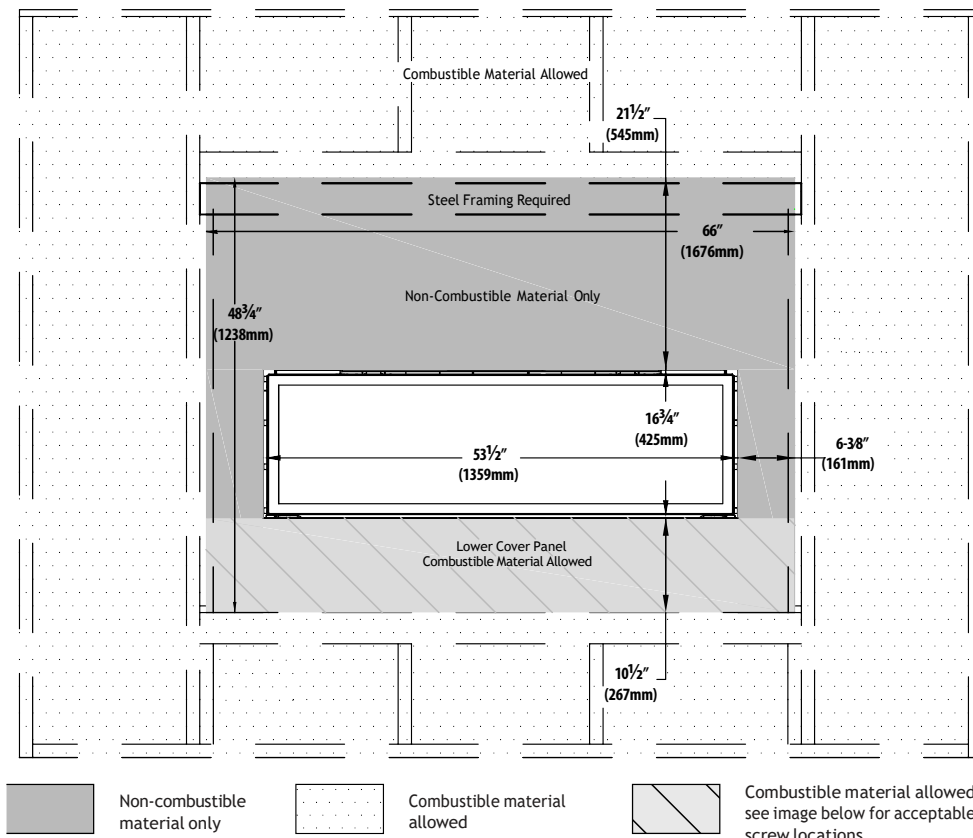
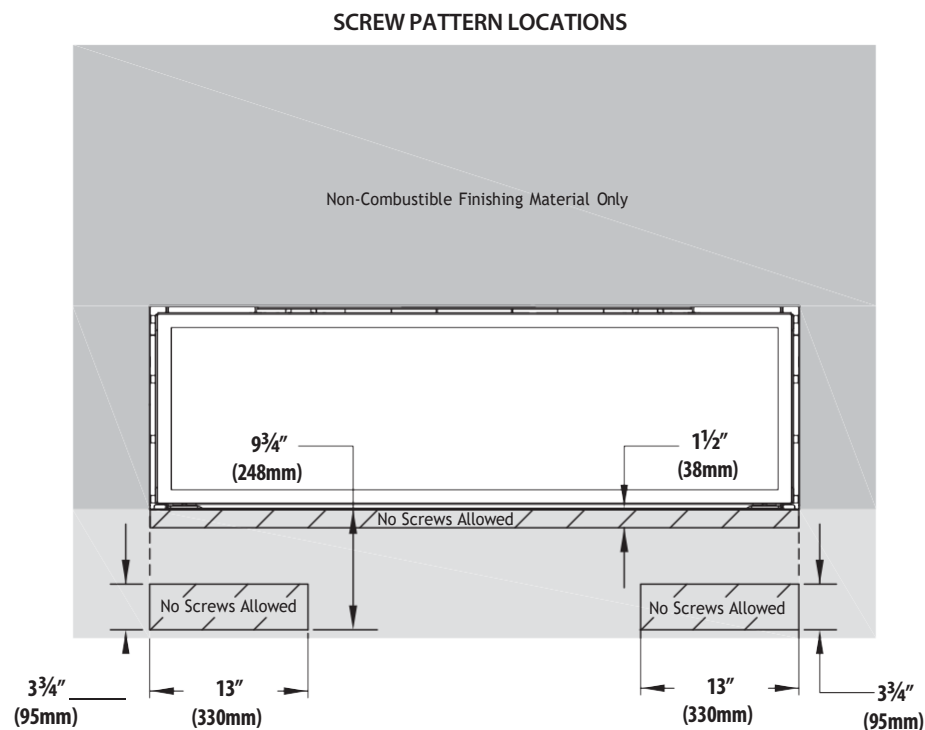

Figure 4.3, Minimum Non-Combustible Finishing Dimensions for all installations
Figure 4.4, Minimum Non-Combustible Finishing Dimensions Screw Locations for all installations
- Non-combustible material is required at the top and sides of the fireplace. This fireplace is designed to accommodate non-combustible facing material up to 3/4" (19mm) thick. See Figure 4.3 and Figure 4.4 on page 34 for facing and finishing material dimensions.
- It is acceptable to pre-drill holes and to use self-tapping screws prior to attach the non-combustible material to the top and sides of the fireplace face. Do not use excessively long screws. Screws can only penetrate the fireplace outer shell up to 1/2" (13mm) in the allowed areas. See Figure 4.3 and Figure 4.4 on page 34.
3. Do not use any screws above the framing when installing the bottom panel to avoid damaging any of the gas and electrical components located behind the panel. Refer to Figure 4.4 on page 34 for maintaining the required areas.
- Non-combustible material is required at the top and sides of this fireplace. This fireplace is designed to accommodate non-combustible facing material up to 3/4" (19mm) thick. See Figure 4.3 and Figure 4.4 on page 34.
- It is acceptable to pre-drill holes and to use self-tapping screws prior to attaching the non-combustible material to the top and sides of the fireplace face, screws can only penetrate the fireplace outer shell up to 1/2" (13mm) in the allowed areas. See Figure 4.4 on page 34.
- This combustible material goes on any required non-combustible materials as shown in Figure 4.3 and Figure 4.4 on page 34.